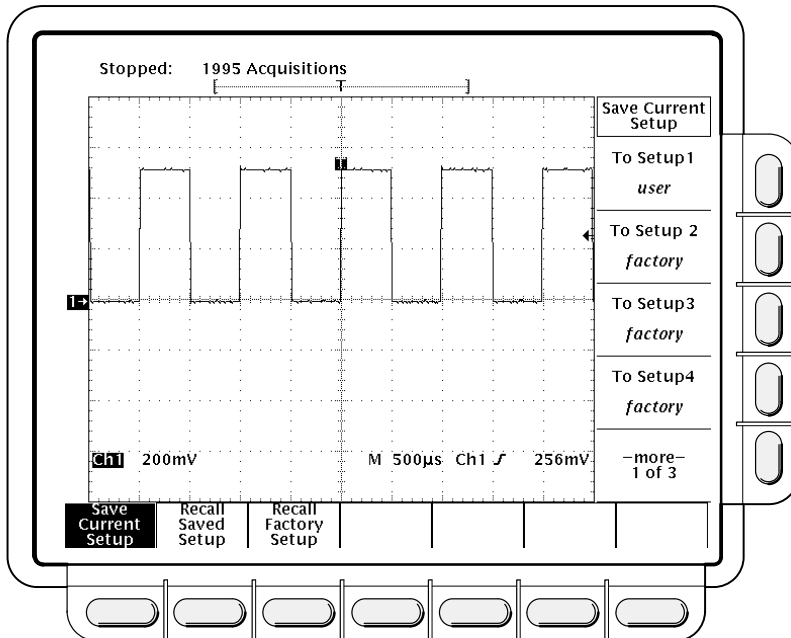

Figure 3-48: Save/Recall Setup Menu
2. Choose one of the ten storage locations from the side menu **To Setup 1**, **To Setup 2**, ... (see Figure 3-48). Now the current setup is stored in that location.